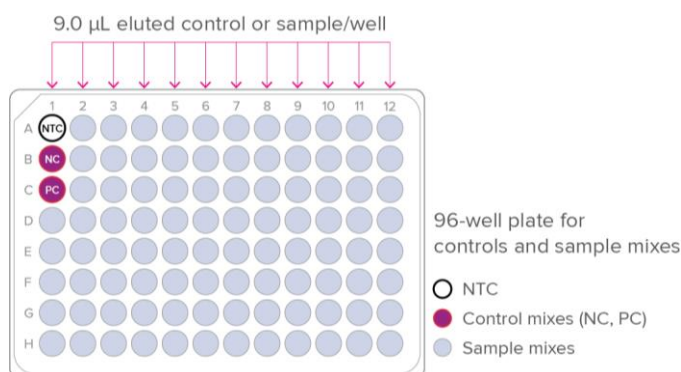

Figure 3. Controls and sample mixes pipetting map
- 4 Using an 8-channel pipette, transfer 9 μ L of eluted controls and samples to each well of the sample plate containing the binding buffer/RNAsecure mix (Figure 3).